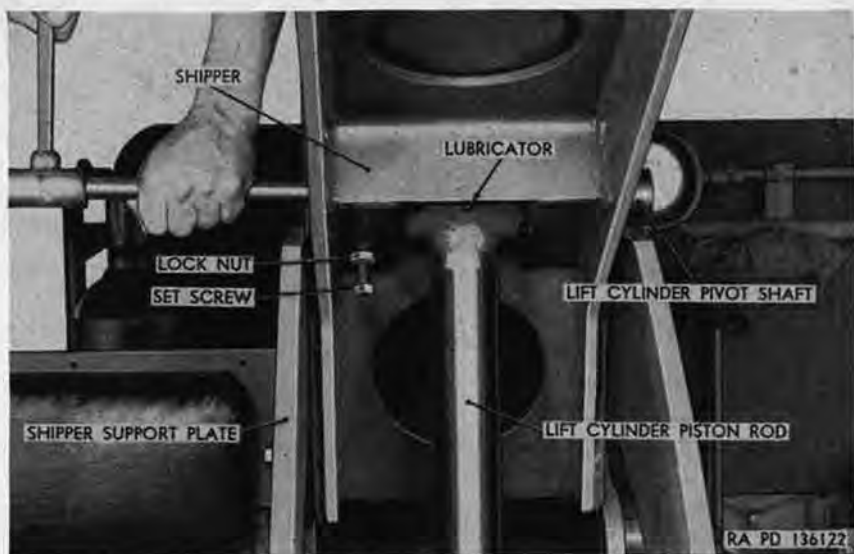

Figure 303. Removing lift cylinder pivot shaft M62.
- (4) Loosen locknut (fig. 303) and set screw and drive out lift cylinder pivot shaft.
- (5) Lower boom and shipper assembly to the horizontal position, and remove overhead hoisting equipment.
- (3) Remove overhead hoisting equipment and chain sling from boom and shipper assembly, attach hoist to front end of boom, and raise boom to expose lift cylinder pivot shaft holes.
- (4) Aline pivot shaft bore in upper end of lift cylinder piston rod (fig. 280) with pivot shaft holes in shipper, and install lift cylinder pivot shaft (fig. 303). Tighten locknut and set-screw on underside of shipper.
- (2) Using overhead hoisting equipment, raise the boom and shipper assembly to the extreme upward position.
- (3) Loosen locknut (fig. 303) and setscrew, and drive out lift cylinder pivot shaft.
- (4) Aline pivot shaft bore in upper end of lift cylinder piston rod (fig. 303) with pivot shaft holes in shipper, and install lift cylinder pivot shaft. Tighten locknut and setscrew on underside of shipper.